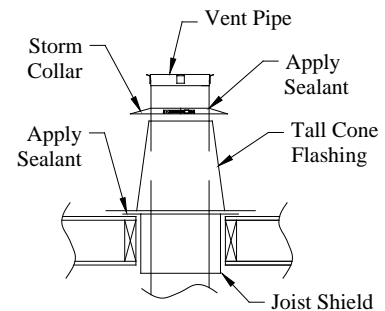

Fig 17A. (Tall Cone Flashing Directly on Flat Roof)
The Tall Cone Flashing is for vertical terminations through a flat roof. Note: For combustible roofs a Joist Shield must be installed prior to installing the Flashing (See Fig. 17A).
- Install Vent pipe through the Tall Cone. Refer to corresponding section for instructions on installing the Storm Collar and Rain Cap (See Fig. 17A).
2. Depending on the type of storm collar you have, tighten the worm gear or the bolts on the tab to secure the Storm Collar to the vent. Apply silicone sealant over the joint between the vent pipe and the Storm Collar (see Figs. 17A, 17B & 18).